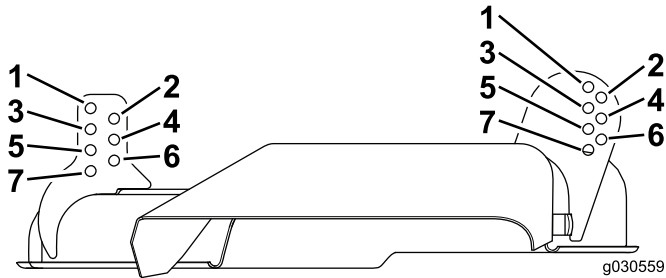

Figure 23
1. Use the following figure to determine the holes to be used to set the height of cut for the mower deck (Figure 23).